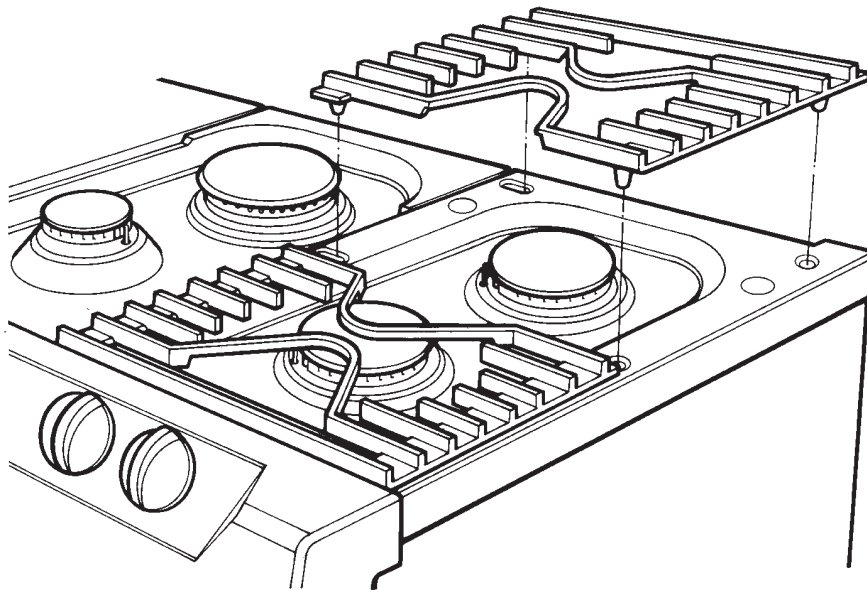

Fig. 22
2. Remove pan supports and burner caps (See Fig. 22).
3. Remove burner fixing screws (14) and hotplate fixing nuts (8).
4. Lift off the burner fixing rings (6).